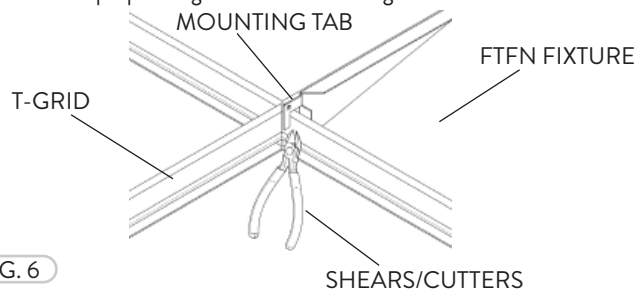

FIG. 6
- 2 If needed, use metal Shears/Cutters to carefully adjust each Mounting Tab to the proper height of the T-Grid (Fig. 6).